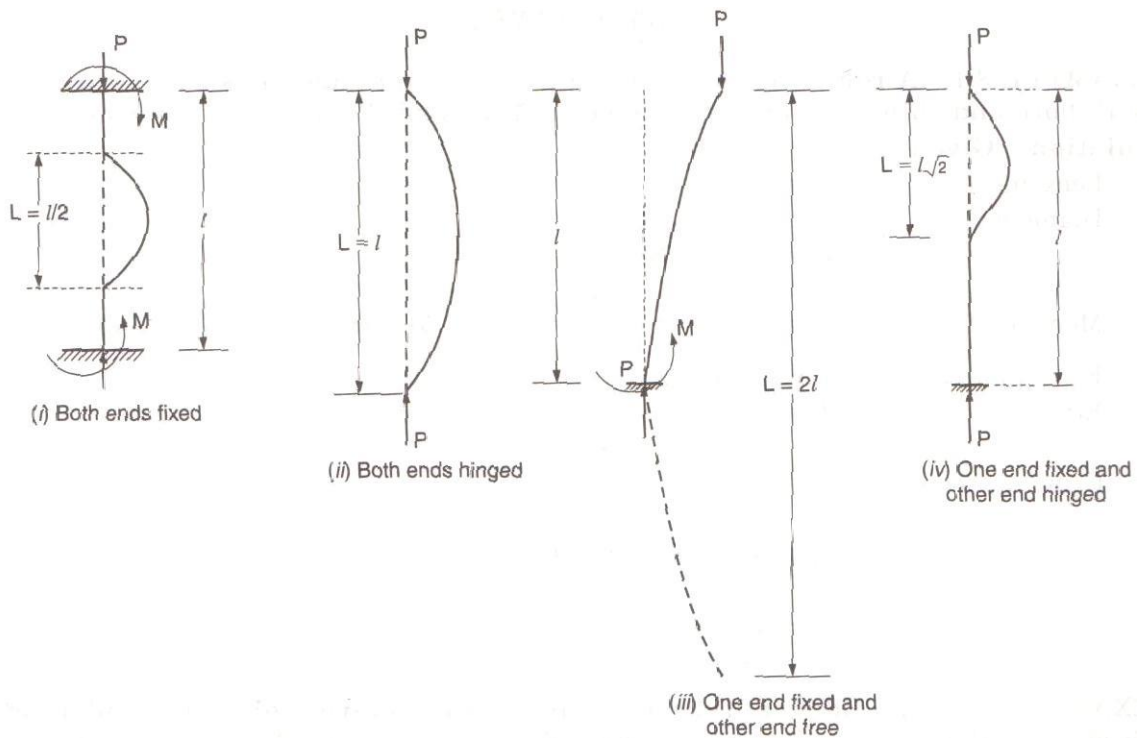

Fig.4.3
**Sign Convention for Bending Moment:** A bending moment is taken as positive if it bends the column with its convexity towards the actual centre line as shown in figure 4.3(i).
A bending moment is taken as negative if it bends the column with its concavity towards the actual centre line, as shown in Fig. 4.3(ii).